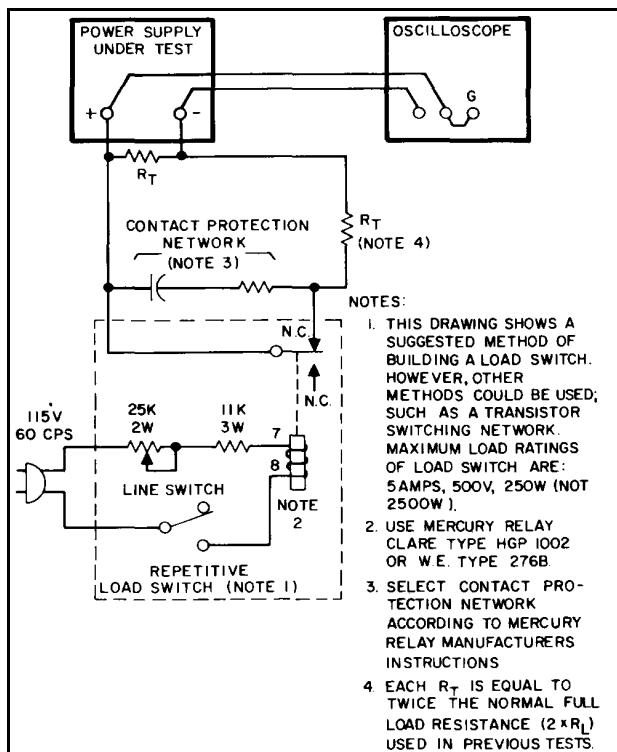

Figure 5-5. Load Transient Recovery Time, Test Setup
| Repetitive Load Sw. | Rate: 60 Hz, $2\mu\text{s}$ rise and fall time | Measure transient response. | See Figure 5-5. |
current changes are to be achieved. Instead, a mercury-wetted relay should be used for loading and unloading the supply. Connect it in the load switching circuit shown in Figure 5-5. When this load switch is connected to a 60 Hz ac input, the mercury-wetted relay will open and close 60 times per second. The 25K control adjusts the duty cycle of the load current switching to reduce jitter in the oscilloscope display. This relay may also be used with a 50 Hz ac input.
- a. Connect the test setup shown in Figure 5-5. Both load resistors (R_L) are twice the normal value of a full load resistance.